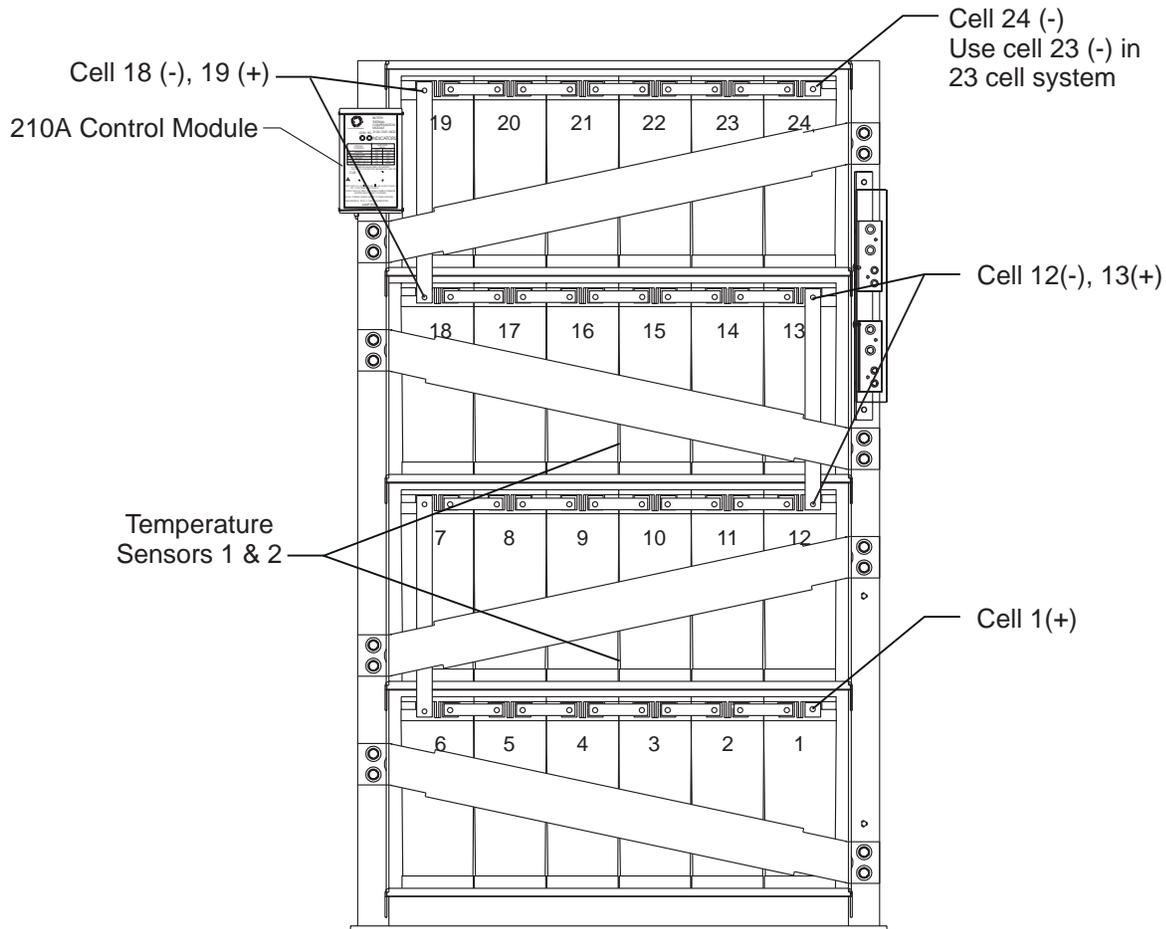

Figure 2-2: Thermistor Locations in VR Batteries
Figure 2-2: Thermistor Locations in VR Batteries	2 - 2
4. Insert the thermistors (temperature sensors) in the battery locations to be monitored. See Figure 2-2 for locations between Lucent Technologies VR batteries.